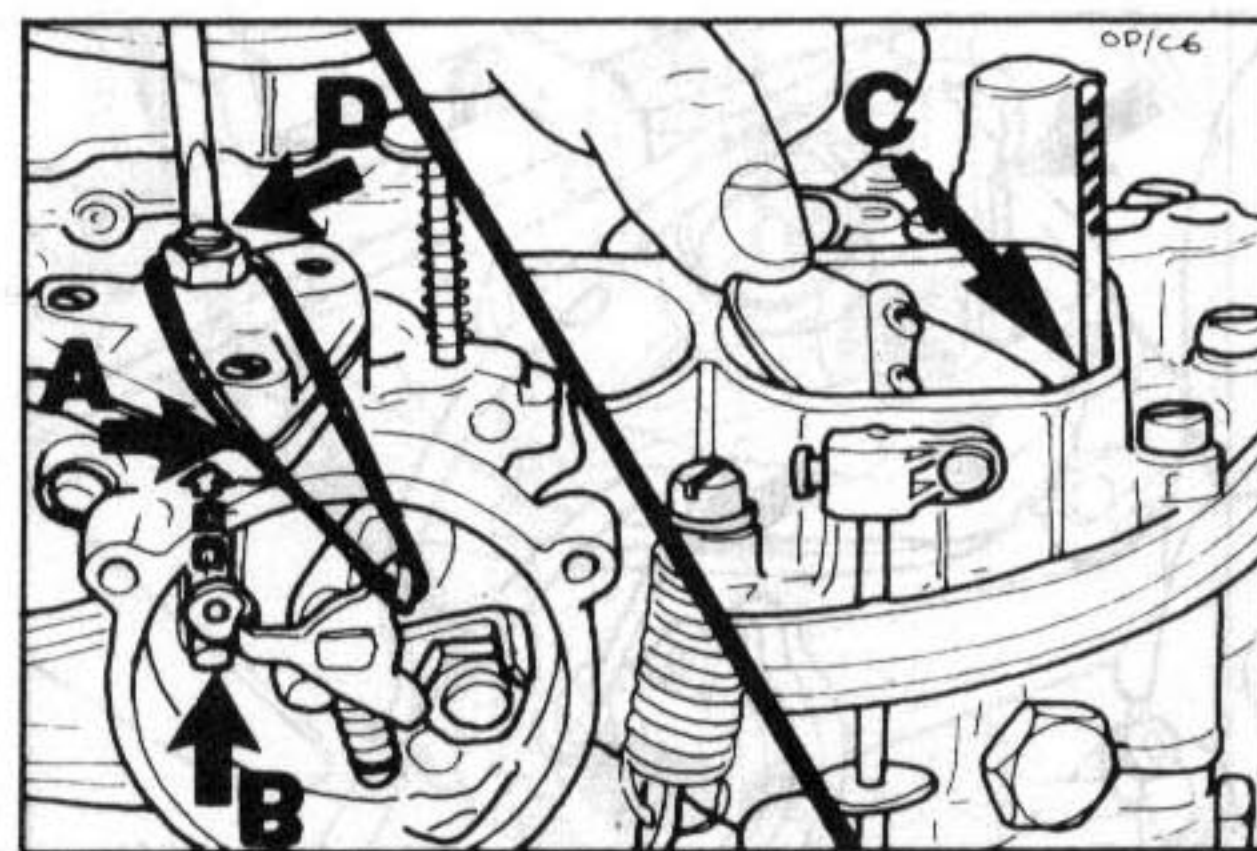

Fig. 7 Checking choke valve gap
- Close choke plate and use rubber band to keep it closed (Fig. 7).
- Push diaphragm rod (B) against stop.
- Check gap between lower edge of choke plate and air intake wall with suitable size of drill (C).
- If clearance is outside specified limits, adjust with stop screw (D).
- With control lever (C) just touching ventilation valve (E), check clearance between lever and stop screw (D), (Fig. 7). Manual Trans. 2,5 - 2,8 mm. Automatic 1,0 mm.